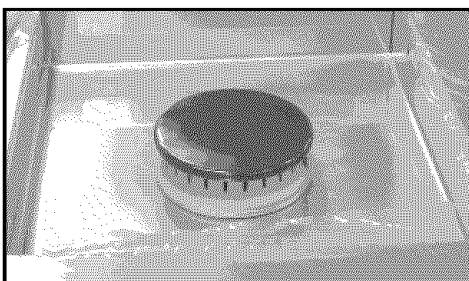

Fig. 10
5. Install burner cap onto burner (See Fig. 10)